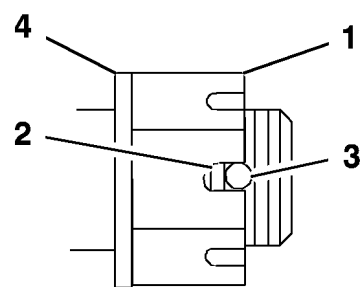

Figure 43
4. Torque the slotted nut to 125 ft-lb (170 N•m) (Figure 43).
5. Check the distance from bottom of slot in nut to inside edge of hole. Two threads or less should be showing (Figure 43).
7. Torque the slotted nut to 125 ft-lb. (170 N•m) (Figure 43).
8. Tighten the nut until the next set of slots line up with the hole in the shaft (Figure 43).